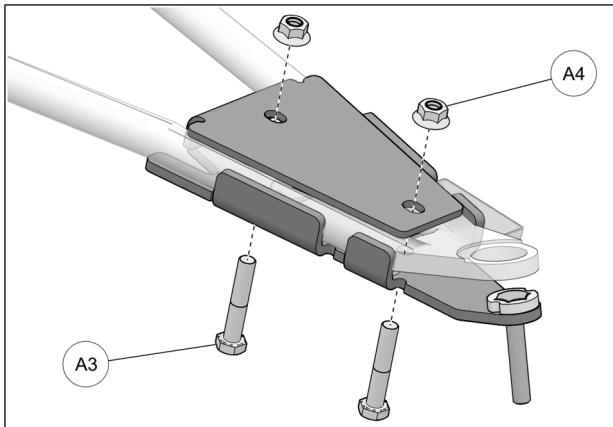

Fig. 19
7. Insert the M10x55 mm bolts (A3) through the bottom and secure the two parts together with the nuts (A4) provided. Tighten assembly to 50 N•m [37 lb•ft] of torque. See Fig. 19